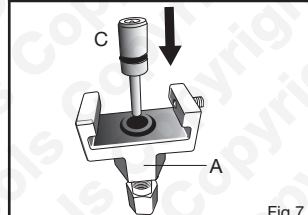

Fig 7
- Remove the removal pin (C) from pin holder (A), turn it around and re-insert it with the pin facing inwards Fig. 7.